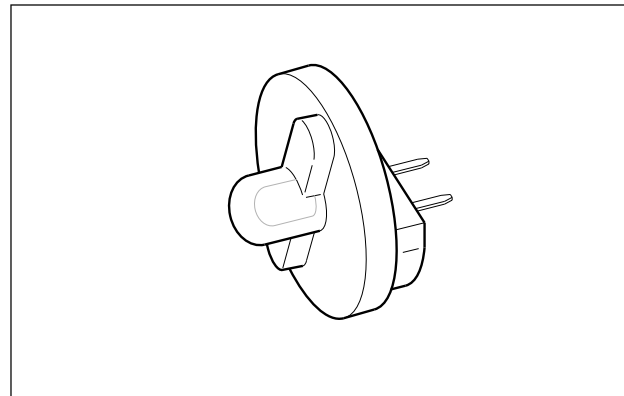

Figure 4-25. Test Lamp
3. Purge fuel line and remove fuel tank to access fuel injectors. See 4.36 FUEL TANK. Use test lamp as shown in Figure 4-25.